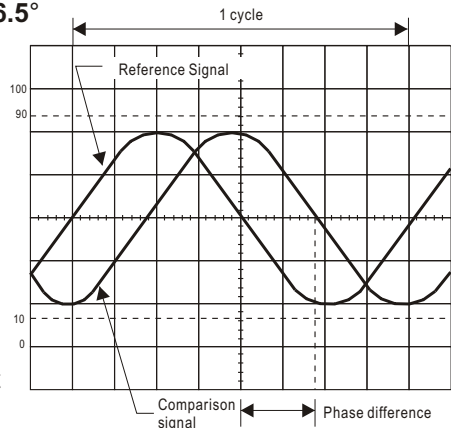

Fig. 15
In the example shown in Fig.15, a period of $40 \mu\text{s}$ is observed. Substituting this value into the above equation, the frequency is calculated as follows:
(Refer to Fig.15)
3. Use the Y POSITION control to position the waveforms in the vertical center of the screen. Use the TIME/DIV and VAR SWEEP controls to adjust the display so one cycle of the reference signal occupies 8 divisions horizontally (see Fig.15). The TRIG LEVEL and X POSITION controls are useful in achieving this display. The display should be as shown in Fig.15, where one division now represents 45° in phase.
For the example shown in Fig.15, the horizontal distance is 1.7 divisions. Thus, the phase difference is calculated as follows: